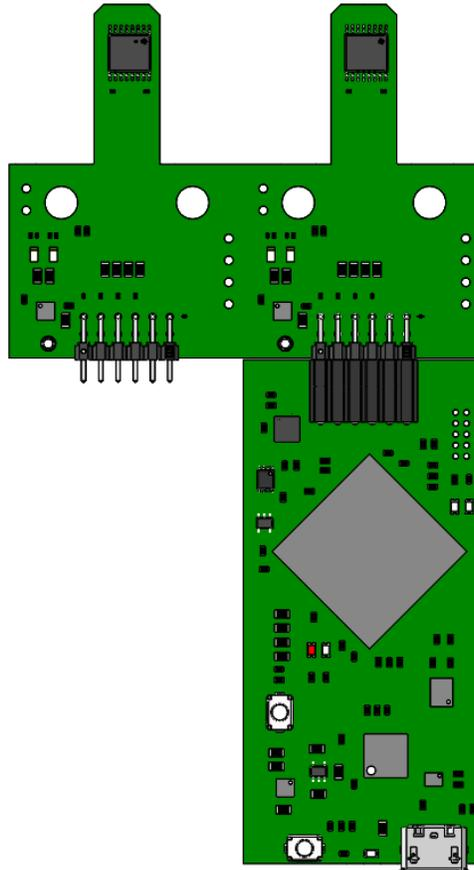

Figure 3-1. EVM on TI-SCB Controller
2. Attach the EVM to the Sensor Control Board (TI-SCB) (see Figure 3-1).
To use the EVM with the included TI-SCB Controller, connect the EVM as shown in Figure 3-1.